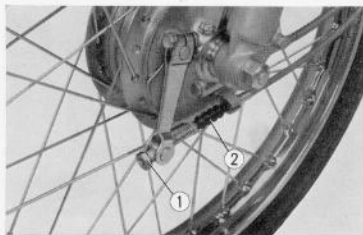

Fig. 4.17 Adjusting front brake
① Front brake adjusting nut
② Front brake cable
8. Connect the front brake cable and make the adjustment with the adjusting nut ① at the brake arm. Adjust so that there is 10 mm to 20 mm (0.40~0.80 in) of free travel at the brake lever. (Fig. 4.17)